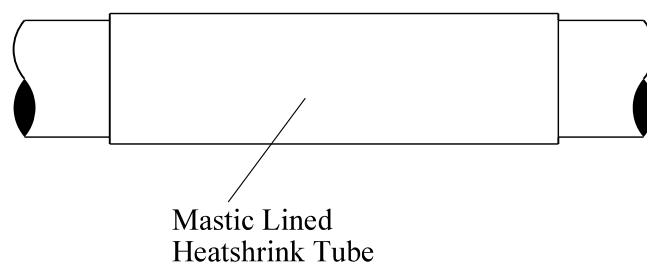

Fig 3.
6. Shrink down the mastic lined heat shrink tube over the ‘88’ tape. – Fig 3.